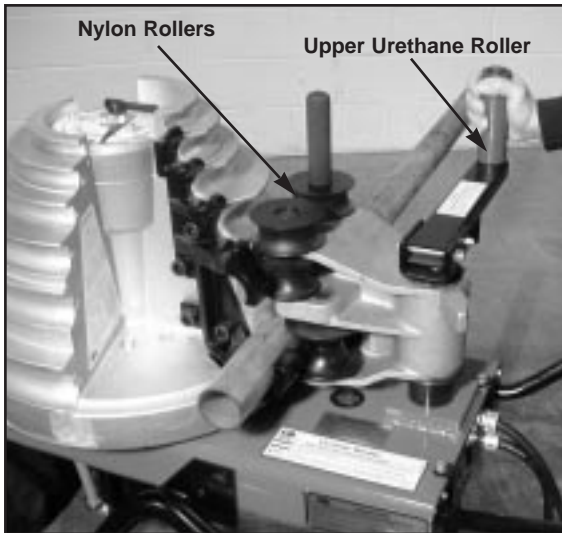

Figure 8. Locking in Roller Support
5. Grasp the upper urethane roller and move the support arm counterclockwise until it contacts the roller housing. The two nylon rollers should have moved against the conduit and should firmly hold the conduit in the shoe (Figure 8).